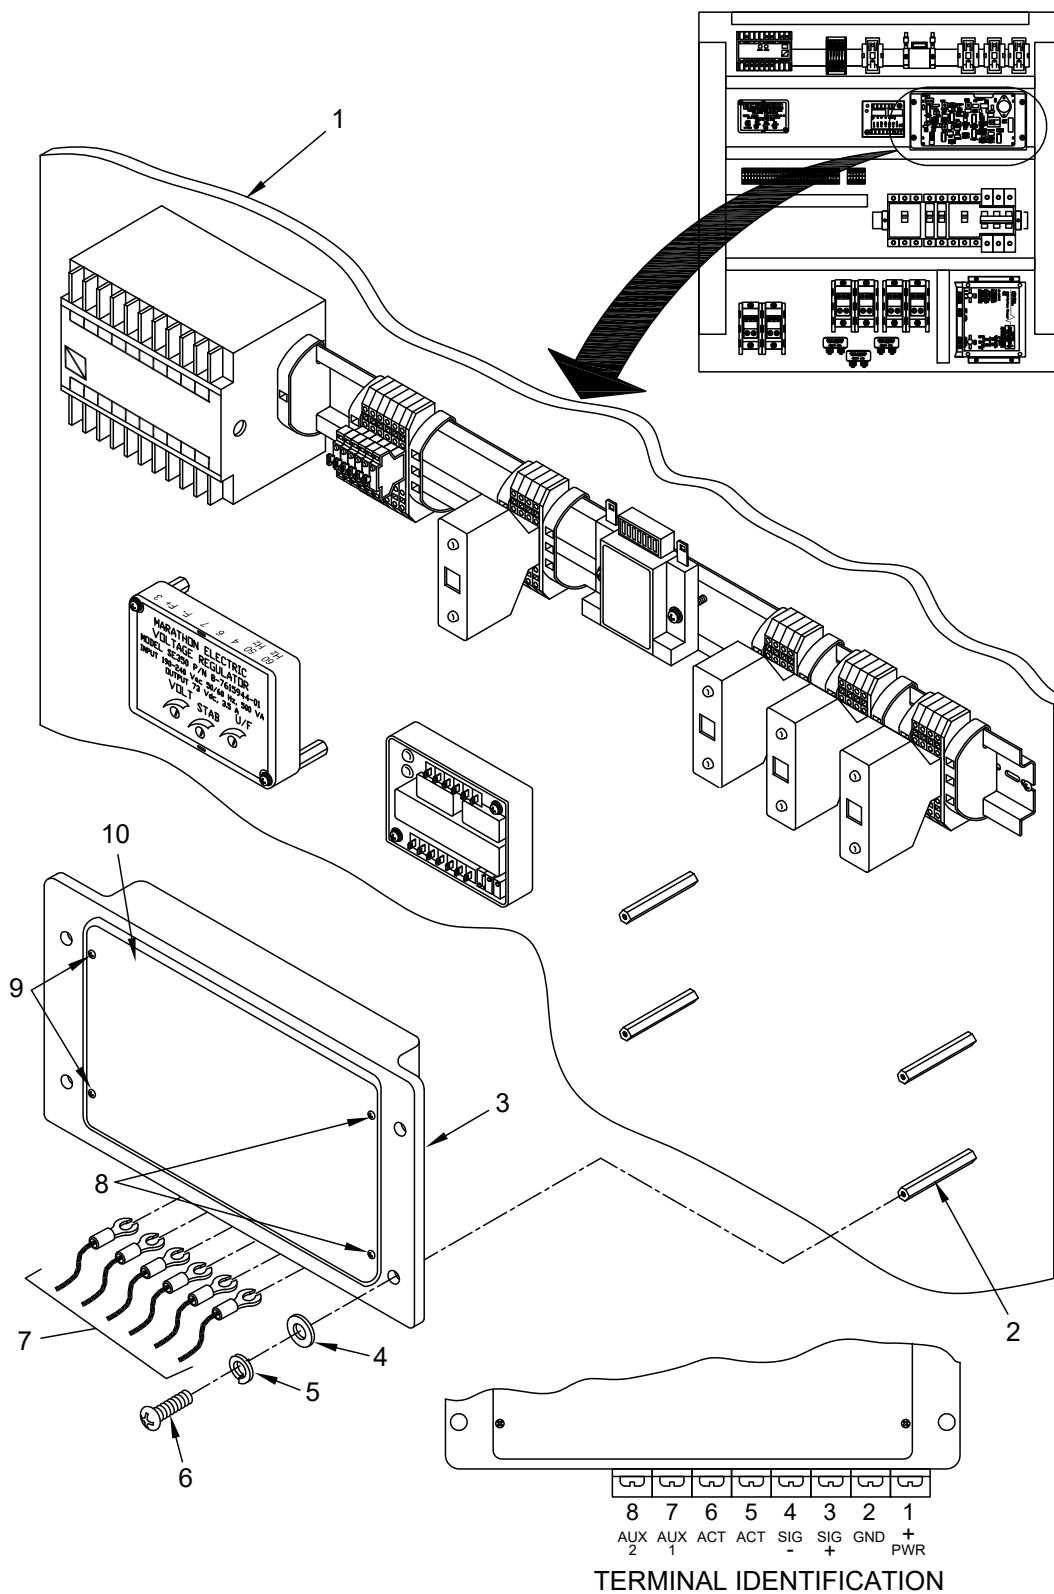
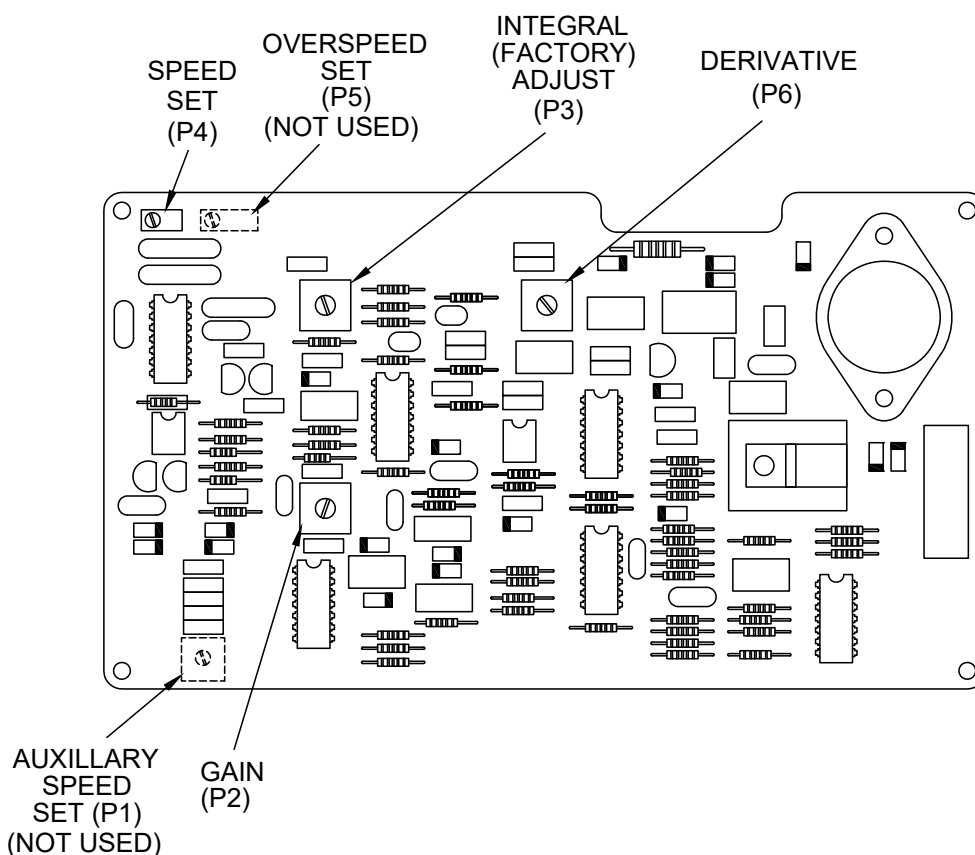

Figure 1. Precision Governor Removal/Replacement.
Figure 2. Potentiometer Location and Identification.
4. Remove and retain four screws (Figure 1, Item 6), lock washers (Figure 1, Item 5), and flat washers (Figure 1, Item 4) securing precision governor (Figure 1, Item 3) to stand-offs (Figure 1, Item 2) on barrier panel (Figure 1, Item 1).
5. Mark and disconnect terminals (Figure 1, Item 7) from precision governor (Figure 1, Item 3).
6. Remove precision governor (Figure 1, Item 3) from barrier panel (Figure 1, Item 1).
If necessary, refer to (FO-6 through FO-12) or (Table 1) for electrical schematics and wiring diagrams. See (Figure 1) for terminal identification.
1. Connect terminals (Figure 1, Item 7) to precision governor (Figure 1, Item 3).
2. Install precision governor (Figure 1, Item 3) and secure to stand-offs (Figure 1, Item 2) on barrier panel (Figure 1, Item 1) using four screws (Figure 1, Item 6), lock washers (Figure 1, Item 5), and flat washers (Figure 1, Item 4).
5. Remove and retain two screws (Figure 1, Item 8) on right side of access cover (Figure 1, Item 10).
6. Loosen but do not remove two screws (Figure 1, Item 9) on left side of access cover (Figure 1, Item 10).
7. Remove access cover (Figure 1, Item 10) and locate speed set potentiometer (P4) (upper left corner of circuit card (see Figure 2).
9. Replace access cover (Figure 1, Item 10), install two screws (Figure 1, Item 8).
10. Tighten four screws (Figure 1, Items 8 and 9).
7. Remove access cover (Figure 1, Item 10) and locate derivative potentiometer (P6) (upper middle of circuit card. See Figure 2).